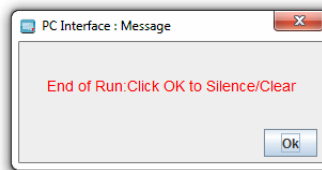

Figure 133. Completed
- After the profile run is complete, the profile Run Completed window will appear as shown in **Figure 133**. Press Ok in pop-up window.